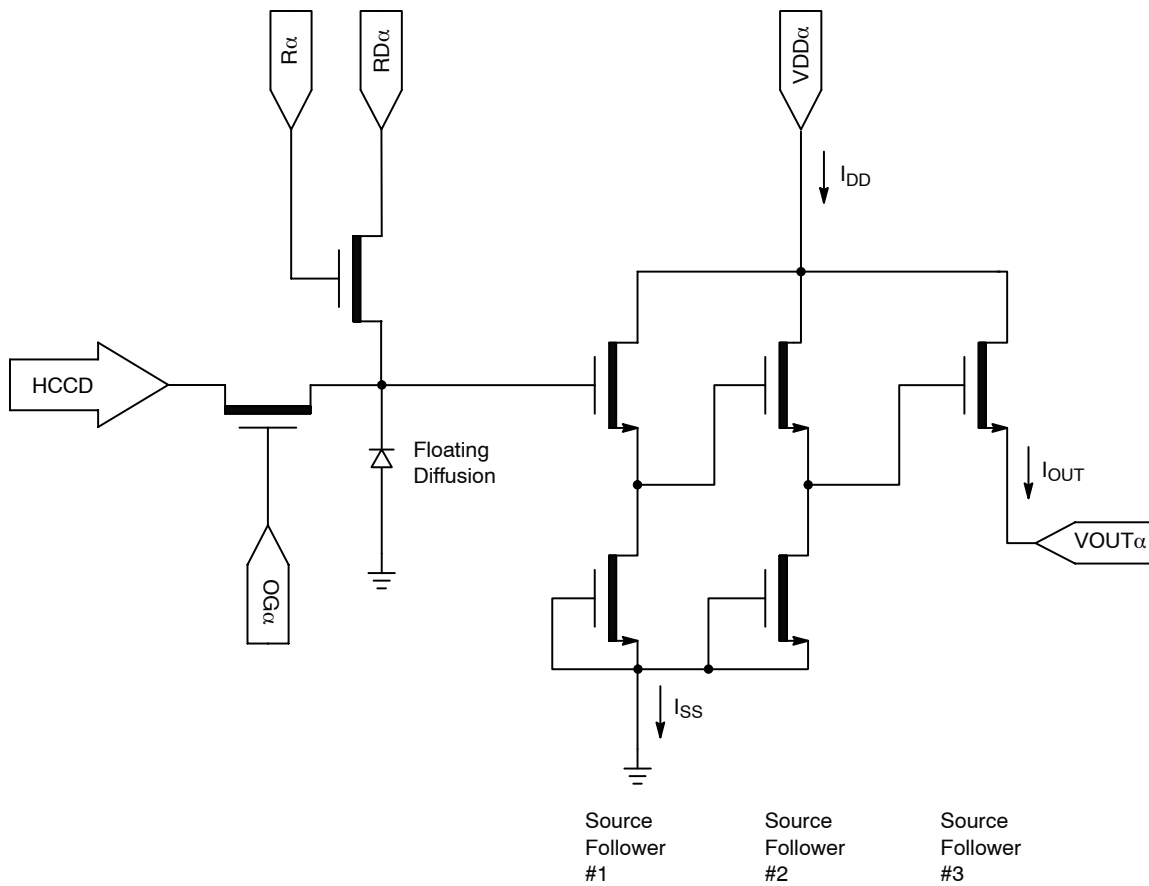

Figure 19. Output Amplifier
- The maximum DC current is for one output.  $I_{DD} = I_{OUT} + I_{SS}$ . See Figure 19.